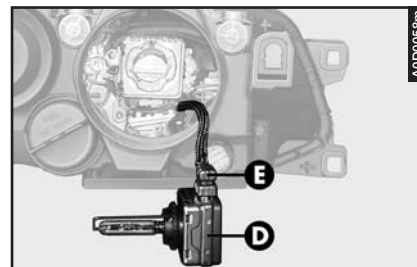

fig. 28
- Remove the bulb (**D**- fig. 28) and disconnect the snap-fitted connector (**E**).